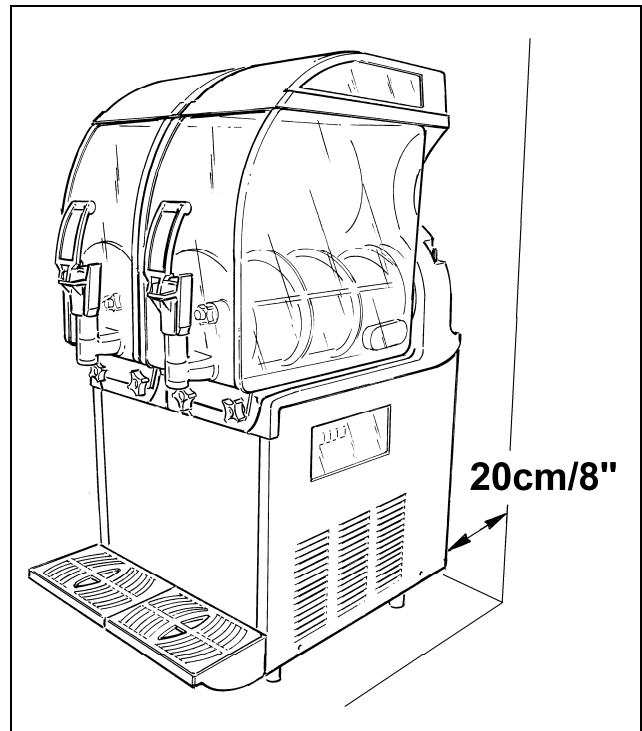

Fig. 2
- b) Rest the machine on a sturdy, flat surface making sure it is well ventilated by leaving a gap of 20 cm around it and do not install it near heat sources (fig.2); **we recommend you to maintain a room temperature between 24 and 38°C. (75°F and 100°F)**